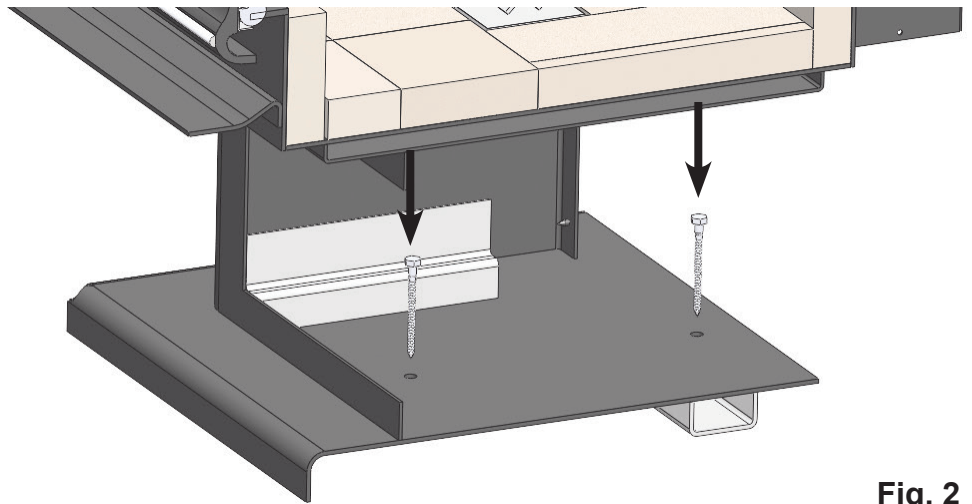

Fig. 2
- For Pedestal Kit (S.Z3903), use #10 screws and washers through the two holes in the back angle support to secure the stove to the floor. **(Fig. 2)**